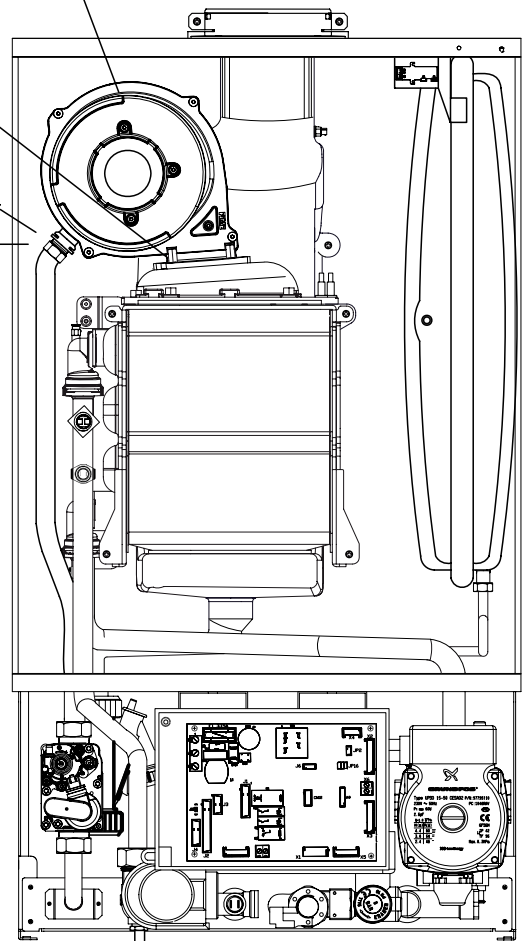

Fig.42
**8.5 TO REMOVE/REPLACE FAN (Fig. 42)**